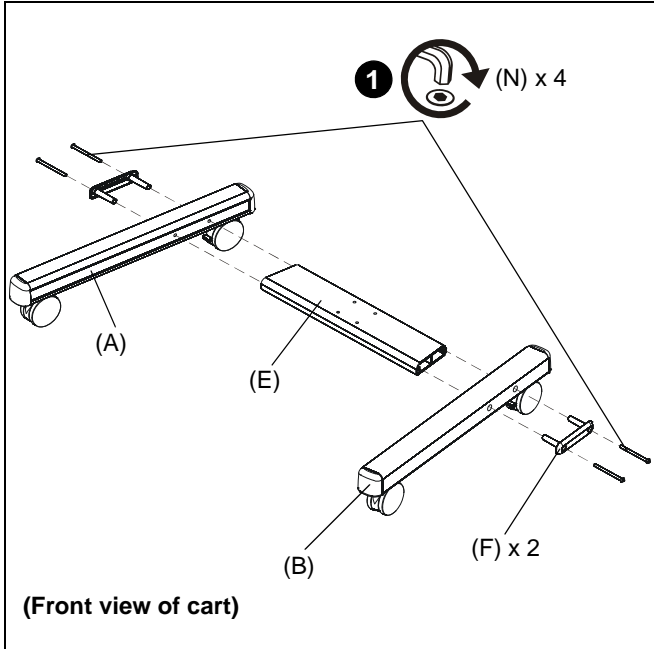

Figure 1
**CAUTION:** Attachment holes may be damaged if a power drill is used to insert button head cap screws. Screws should first be inserted and turned **BY HAND** with the hex key or with a handheld screwdriver **BEFORE** using the hex head drill bit (Q) and power drill to complete the attachment.
1. Assemble two legs (A) and (B) to the cart cross bracket (E) using two 5/16-18x4-1/4" button head cap screws (N) and one end cap (F) per leg. (See Figure 1)